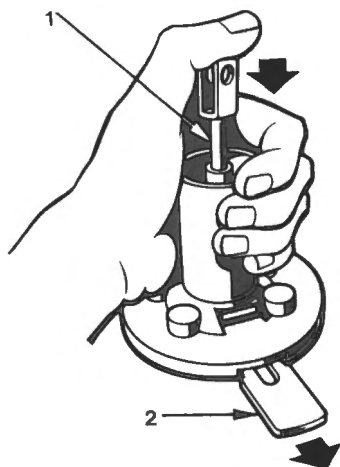

Fig. R-10
- 8 Should the shells refuse to separate, recheck alignment of tongues with cut-outs. Tap the front shell lightly with a hammer to break the bond between the front and rear shells and the diaphragm (11).
- 9 Maintain a firm downward pressure while separating the front and rear shells to prevent the return spring (7) from causing the shells to fly apart.
- 11 Remove front shell (6) and return spring (7) from the assembly. Remove yoke from valve rod (15) checking number of turns for correct replacement and remove locknut.
- 12 Remove air silencer (19) and air filter (18) from the valve body assembly (14).
- 14 Support the rear shell on wooden blocks and drive out the rear shell seal (16) noting direction of seal.
- 15 Remove the four screws (8) and lock washers (9) from the diaphragm pressure plate (10).
- 16 Separate the diaphragm pressure plate (10) and diaphragm (11) from the valve body assembly (14) noting port opening in diaphragm and valve body.
- 17 Lightly press downward on the valve rod and plunger assembly (15) and remove locking key (13) from the valve body (14). Fig. R-10.
- 18 Separate valve rod and plunger assembly (15) and reaction disc (12) from valve body (14).
- 2 Lightly smear the valve rod and plunger assembly (15) with a suitable lubricant such as PBR RYCON 'O' grease and assemble into valve body (14), retain with locking key (13). Fig. R-10.
- 3 Lightly smear reaction disc (12) with RYCON 'O' grease and press into valve body (14) with button facing inwards.
- 4 Assemble diaphragm (11) to diaphragm pressure plate (10) and valve body (14) retain with four screws (8) and lock washers (9) ensuring that the ports in diaphragm and valve body are aligned.